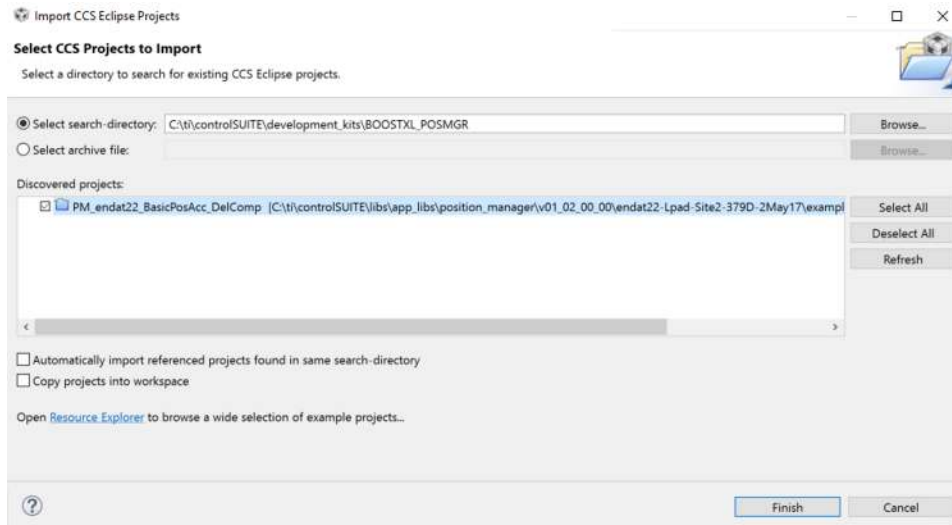

Figure 7. Adding PM EndDat22 Example Project to Workspace
- b. Something similar to Figure 7 import will appear, and click *Finish*.
NOTE: By default, CCS will not copy the project into the workspace. Any changes made to files within CCS will thus be reflected in the files stored in the controlSUITE installation. If desired to preserve the original files stored in controlSUITE, check the box *Copy projects into workspace*, as seen in Figure 7.